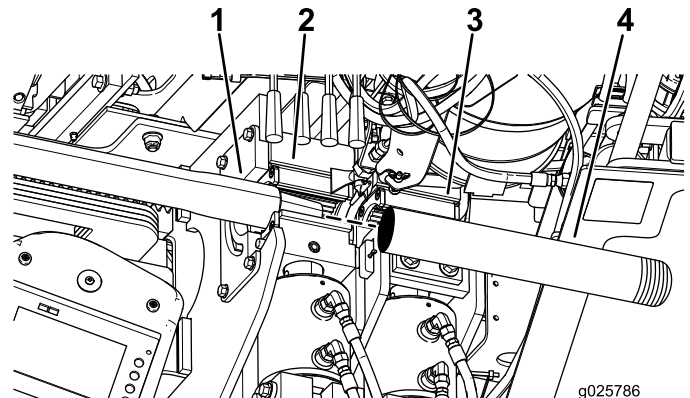

Figure 51
4. Pull the drill pipe and lead bar back through the pipe guide and into the wrenches, aligning the thickened upper joint of the lead bar with the upper wrench (Figure 51).